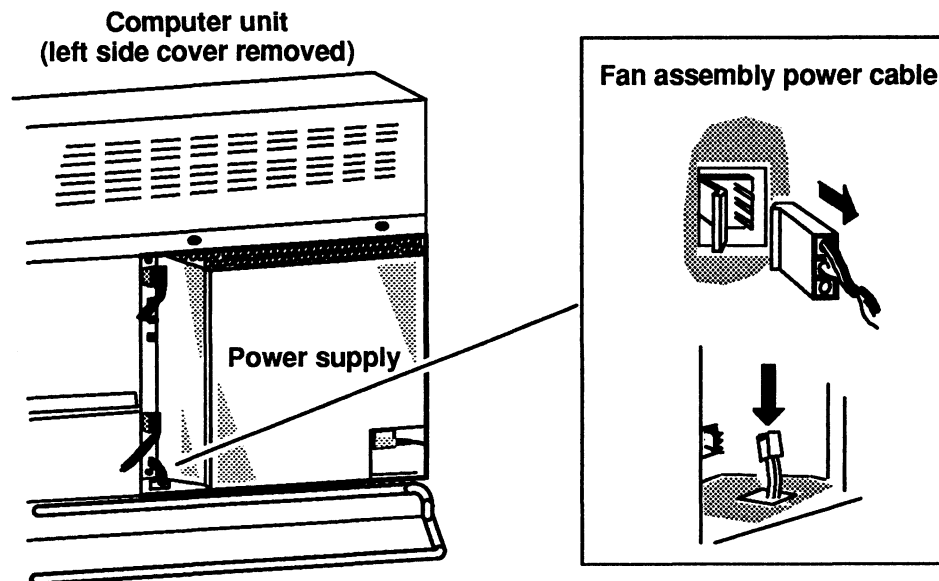

Figure 6-12 Unplugging the Fan Assembly Power Cable from the Power Supply
1. Unplug the fan assembly power cable from the power supply, and push it down through the hole in the computer unit as shown in Figure 6-12.